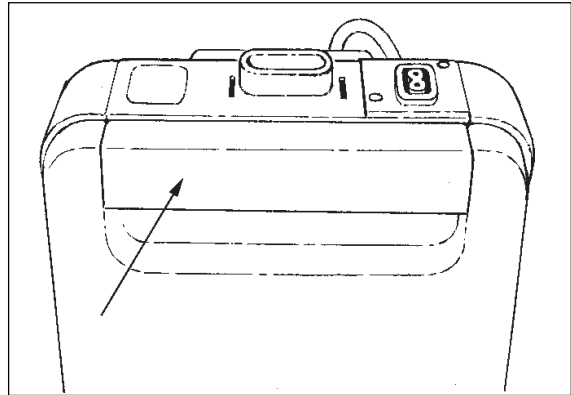

Figure 2
2. Open the front of the tank housing. To open the tank housing, press the tank release bar. See figure 2.